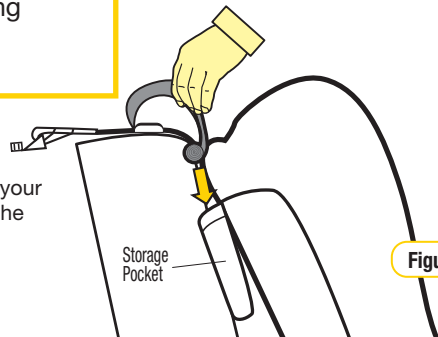

Figure 9
**Step 7:** Store any excess webbing, from the top tether strap, in the storage pocket provided on the restraint (refer to Figure 9).
After correctly installing the restraint in your car, roll up and place any excess strap in the storage pocket provided (refer Figure 9).